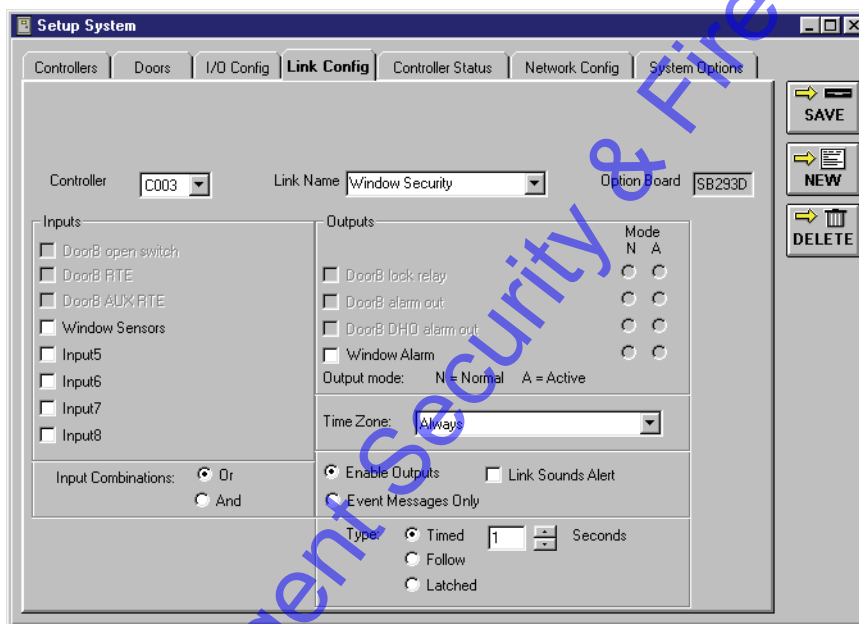

Figure 6-38: Select Controller and Enter I/O Link Name
3. Click in the Link Name field and type in the name for the link. For this example type **Window Security** (see Figure 6-38).